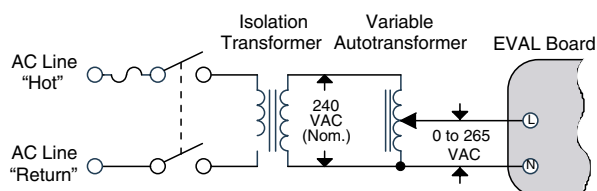

Figure 1.
1. Connect a variable autotransformer (such as a Variac) to the output of an isolation transformer, and to the input of the ML4824EVAL Board. Both transformers should be rated for 500 VA or greater, and in combination should be rated for an output voltage range of 0 VAC to approximately 265 VAC. The connections should be made as in Figure 1, with the Isolation Transformer NOT plugged into the AC line until step 5.